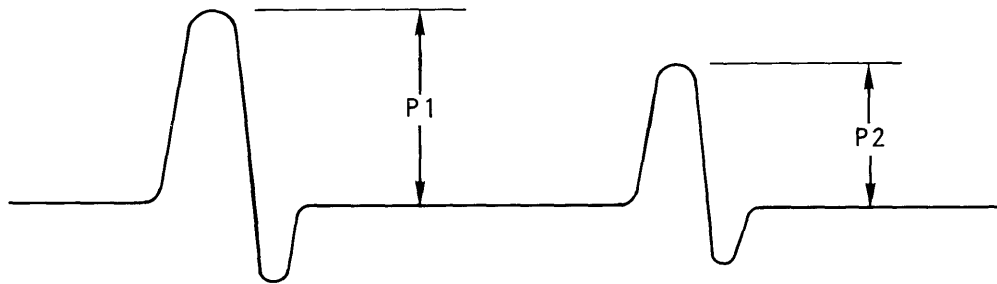

Figure 4-34. Reference Edge Measurement Waveform (TPI0)
- m. Run tape in forward direction (Service Aid 23) and compare P1 and P2 on oscilloscope trace. See Figure 4-34.